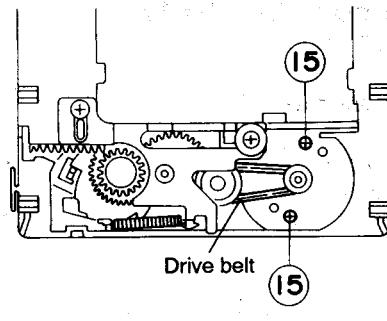
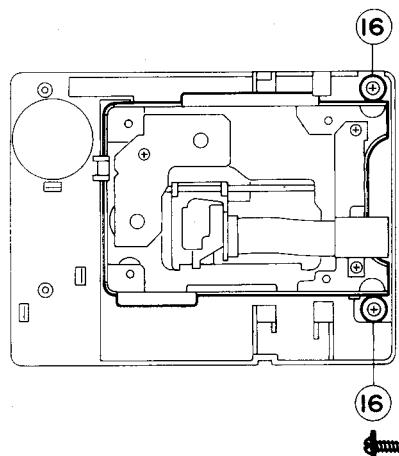

Fig. 7-15
Fig. 7-17
■ How to Remove the CD Amplifier P.C. board (Refer to Fig. 7-15)
1. Remove the two screws (14) retaining the CD amplifier P.C. board.
■ How to Remove the Main Parts of CD Mechanism (Refer to Figs. 7-15 and 7-16)
4. Remove the two screws (15) retaining the loading motor, and dismount the drive belt from the pulley.
6. Turn the loading base over and remove the loading motor P.C. board by opening the three pawls retaining the P.C. board in the arrow direction (A).
■ How to Remove the CD Mechanism (Refer to Figs. 7-17, 7-15 and 7-18)
4. Remove the two screws (16) retaining the C.D. mechanism.
■ How to Remove the CD Pickup Unit (Refer to Figs. 7-17, 7-18 and 7-19)
4. Remove the one screw (17) retaining the CD chassis.
5. While moving the CD chassis toward the stopper screw, remove the two pawls (D) on the chassis.